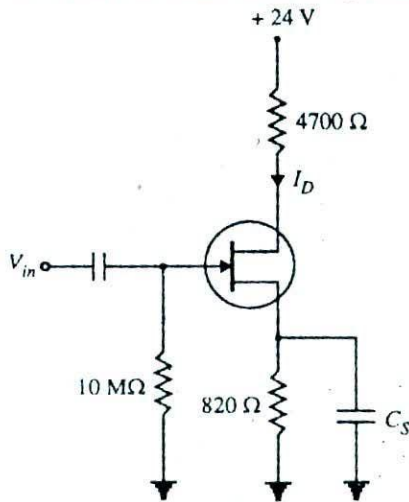

Fig. 21.28
3. In the *JFET* circuit shown in Fig. 21.28 if $I_D = 1.9$ mA, find V_{GS} and V_{DS} . [-1.56 V; 13.5 V]